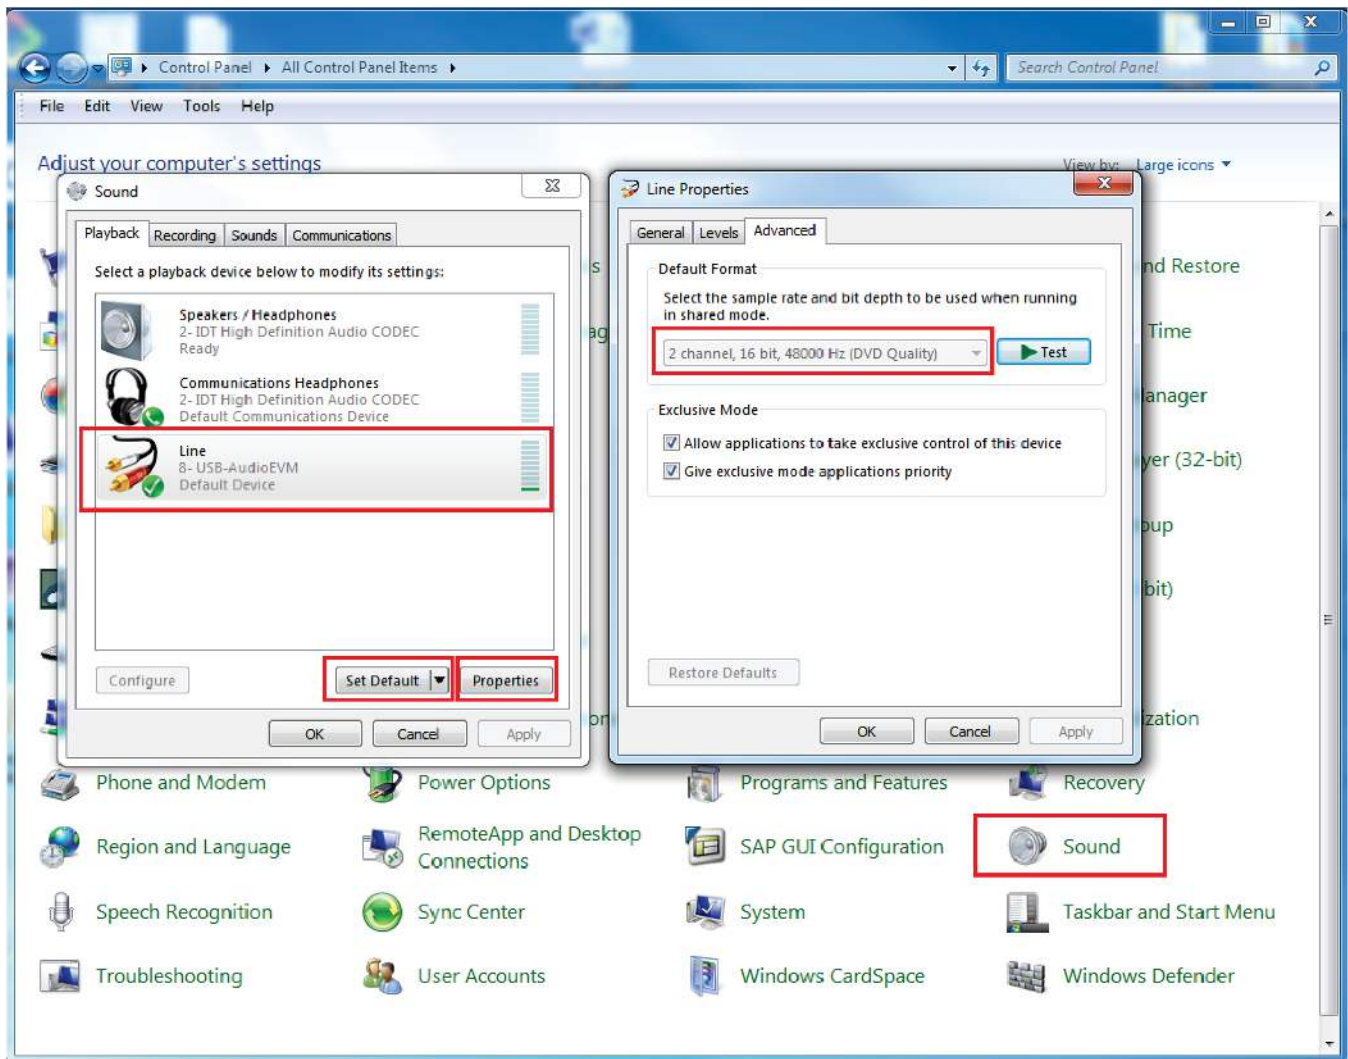

Figure 2-2. Default Format
5. Go to **Control Panel, Sound** and select **USB-AudioEVM** under the **Playback** tab. Click on **Set Default** to make it the default playback device. Click on **Properties** and under the **Advanced** tab, make sure that the **Default Format** is shown as 2 channel, 16 bit, 48000 Hz (DVD Quality) in Figure 2-2 below.